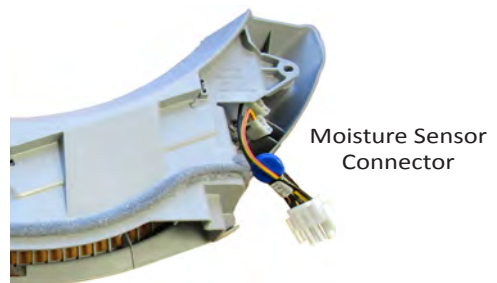

Figure 4 - Moisture Sensor Connectors
8. Remove the harness from the moisture sensor strips (see Figure 4).